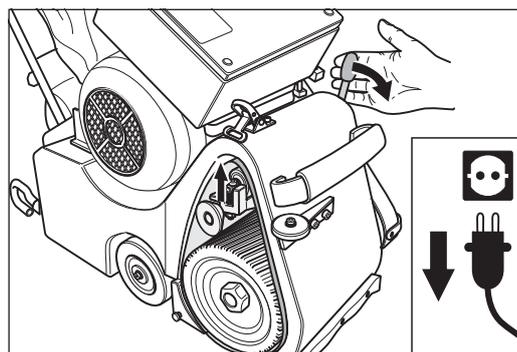

Fig. 11 To tension the sanding belt press the operating lever of the drive unit downwards.
- 11 To tension the sanding belt press the operating lever of the drive unit downwards (Fig. 11).
- **Always** tension the sanding belt before switch on the machine (Fig. 11)!
- **Always tension the sanding belt before switch on the machine (Fig. 11)!**